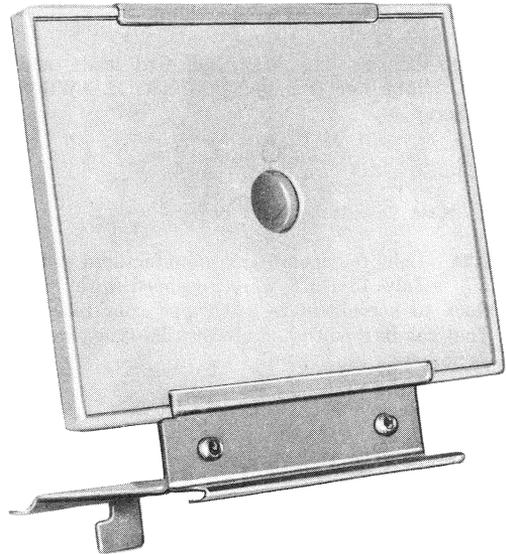

Fig. 22—11A Card Holder
3.28 The 11A card holder (Fig. 22) is available as an auxiliary customer card frame which can be installed on 1-type coin telephone sets when they are mounted on 178A backboards.